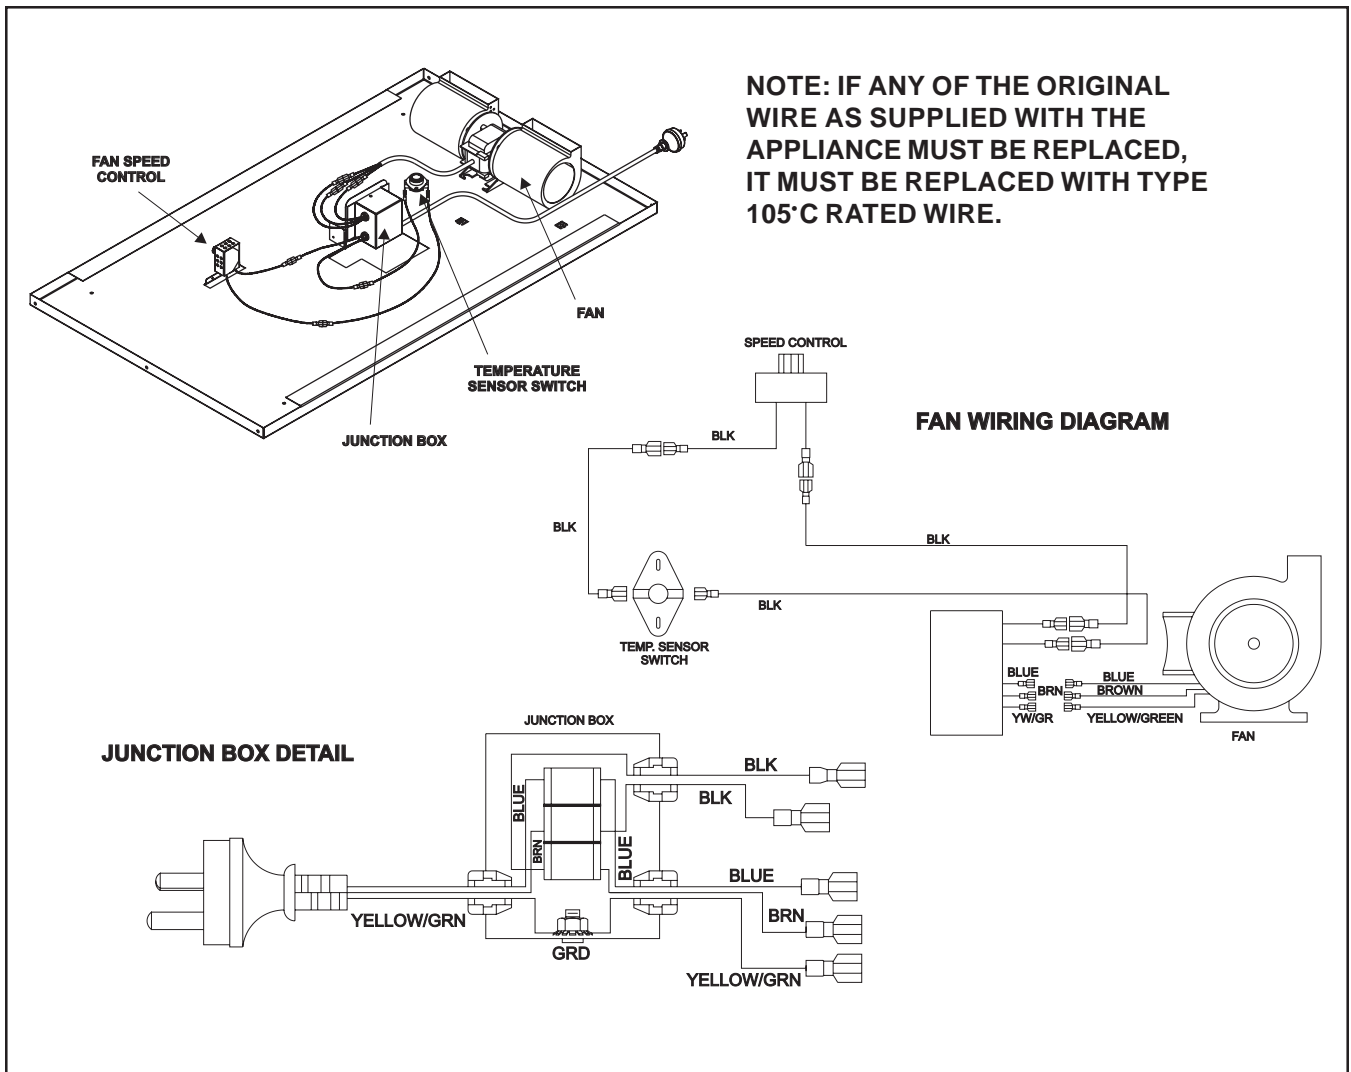
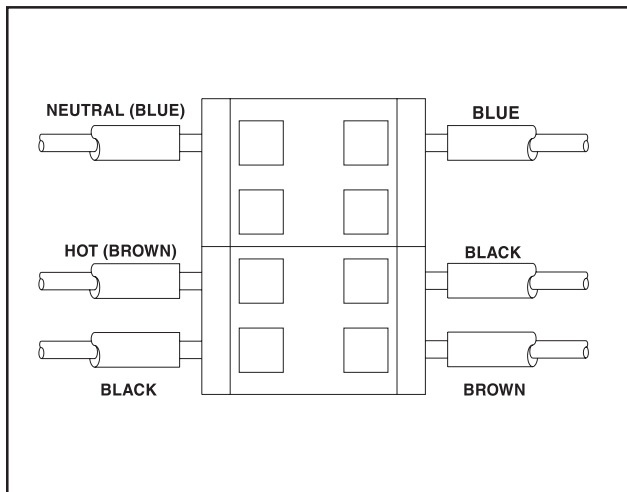

Figure 21
FIGURE 22
Use of the fan requires that the Junction Box (factory installed) be connected to 240 VAC service before permanently enclosing the heater. The access hole for connecting the service wires is found on the lower exterior side of the unit. Figure 21 shows the fan, switches, and fan wiring diagram.
3. Using the wire connector provided inside the junction box, attach the neutral service wire to the blue wire, the hot service wire to the black wire, and the service ground wire to the ground screw stud of the junction box. See Figure 22 for wire connection detail and Figure 21 for a complete wiring diagram.